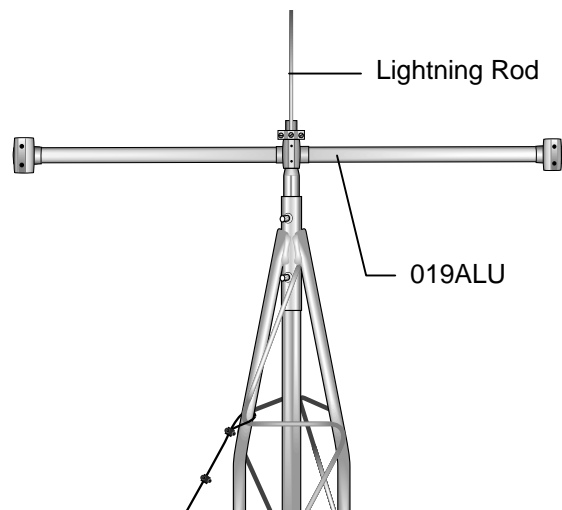

FIGURE 2.2-2. 019ALU Crossarm and Lightning Rod
2. Attach the 019ALU crossarm to the mast as shown in Figure 2.2-2. Position the middle NU-RAIL at the base of the swaged mast section. Orient the 019ALU in a north/south direction, with the 3/4" NU-RAIL facing south (northern hemisphere) and tighten the set screws.
3. Install the lightning rod to the mast as shown in Figure 2.2-2. Loosen the two screws on the lightning rod mounting bracket. Position the mounting bracket 2" down from the top of the mast and tighten both screws evenly. Make sure the lightning rod set screw is tight.